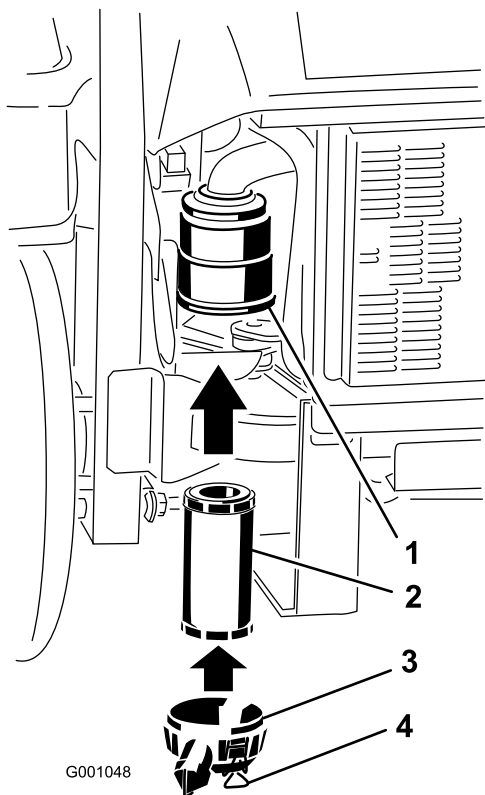

Figure 38
2. Carefully slide the filter into the filter body (Figure 38). Ensure that it is fully seated by pushing on the outer rim of the filter while installing it.
3. Install the air cleaner cover and secure the latches (Figure 38).